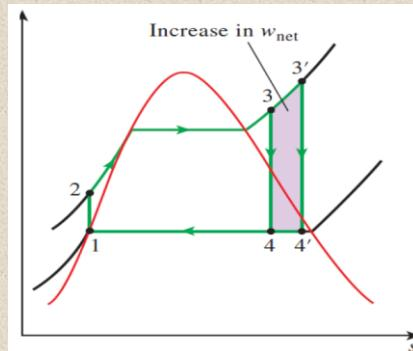

FIGURE 7
- The average temperature at which heat is transferred to steam can be increased without increasing the boiler pressure by superheating the steam to high temperatures. The effect of superheating on the performance of vapor power cycles is illustrated on a  $T$ - $s$  diagram in Fig. 7.